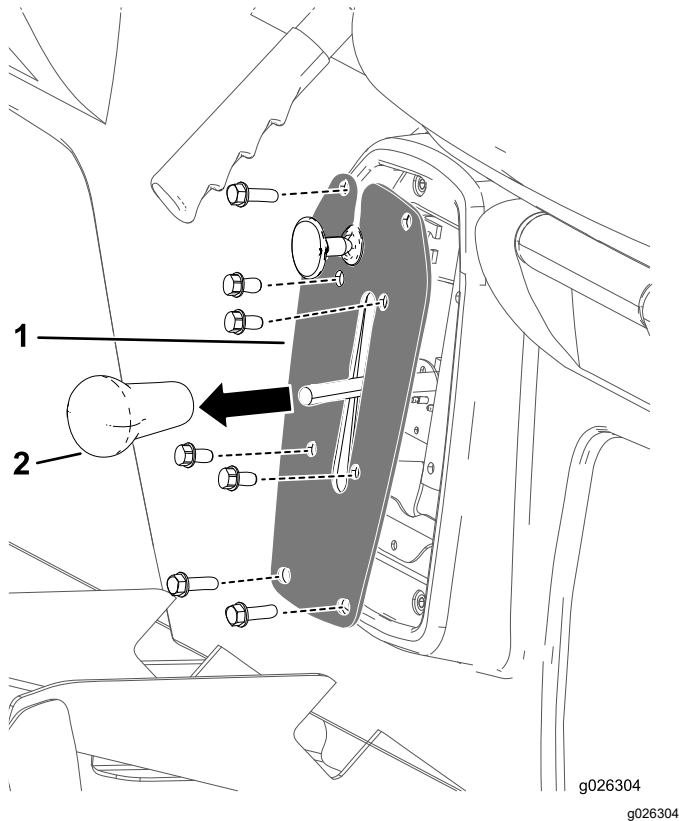

Figure 42
1. Remove the knob from the gear-shift lever (Figure 42).
2. Remove the 4 bolts that secure the shifter plate to the shifter bracket (Figure 42).
3. Remove the 4 bolts that secure the shifter plate to the seat base and remove the shifter plate (Figure 42).
4. Thread the knob from the gear-shift lever and tighten the knob by hand (Figure 42).